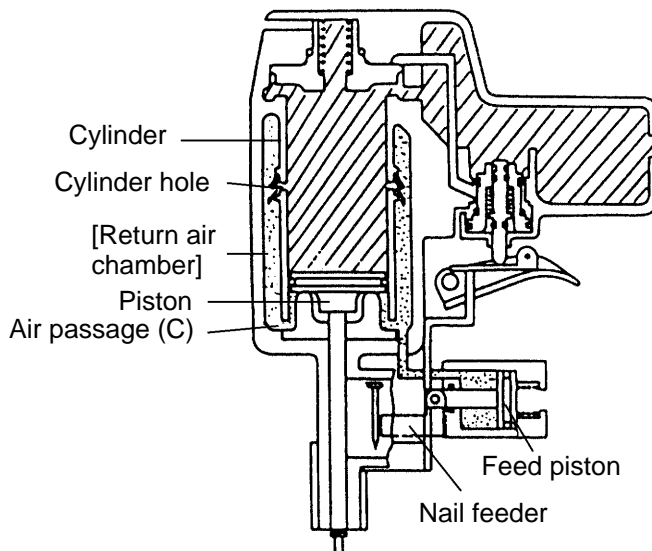

Fig. 10 During nailing (II)
(3) During nailing (II) (see Fig. 10)